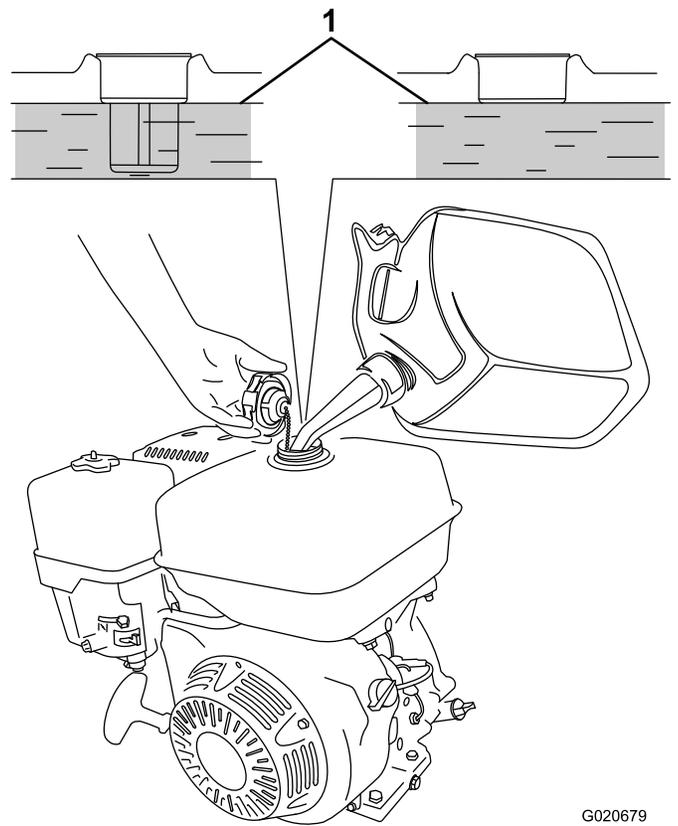

Figure 12
3. Clean around the fuel-tank cap and remove it (Figure 12).
4. Add unleaded gasoline to the fuel tank until the level is at the bottom of the maximum fuel level (Figure 12).